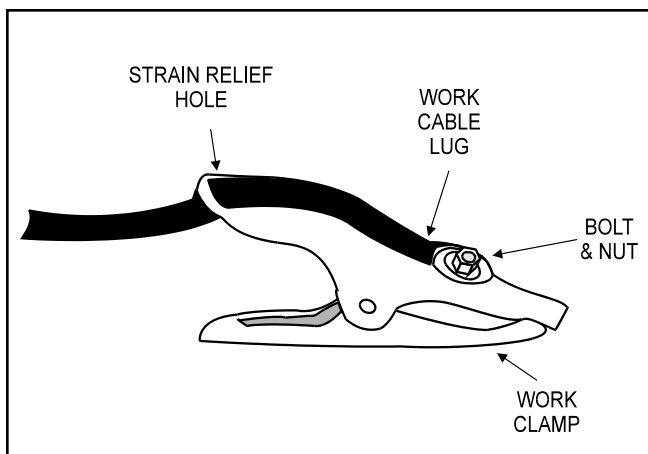

FIGURE A.7 - Installing The Work Clamp.
1. Insert the lug on the end of the work cable through the strain relief hole in the work clamp handle. See Figure A.7.